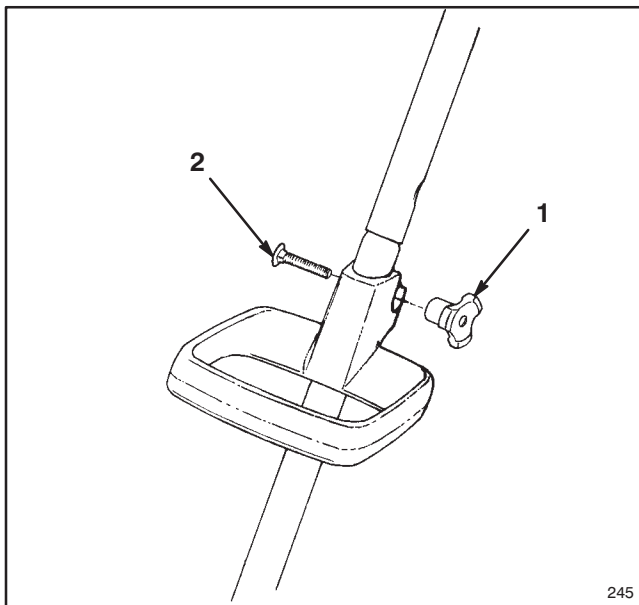

Figure 4
5. Loosely secure the adjustable handle to the tube with the carriage bolt and knob (supplied in loose parts bag) as shown in Figure 4.